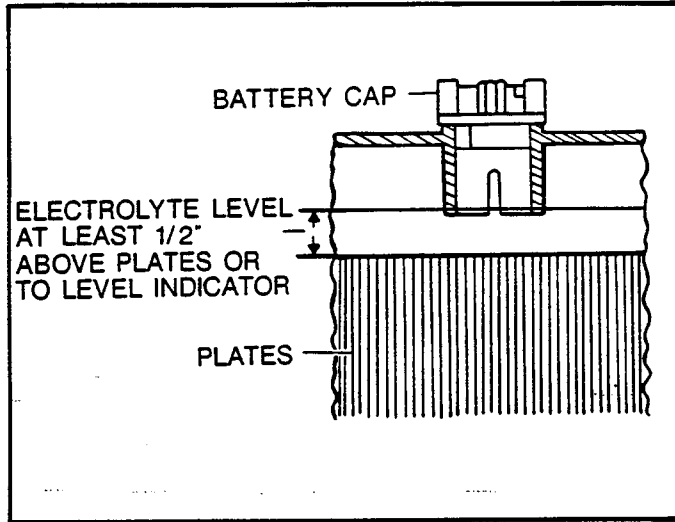

FIG. 11 BATTERY ELECTROLYTE LEVEL
- o When adding water, do not overfill (Fig. 11). Overfilling will cause a loss of acid from the electrolyte. Use distilled water